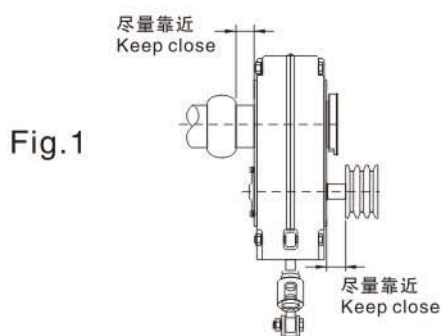

Fig.1
- 1、输入轴上的皮带轮安装时尽可能的靠近减速机，安装减速机到被驱动机时也应该使减速机尽可能的靠近被驱动机，若安装得太远会使减速机的轴承承受较大的径向力，造成轴承的过早损坏（如图1所示）。
1. Install pulley on gearbox input shaft as close to the reducer possible, and mount reducer on driven shaft as close to bearing as practical (see figure 1). failure to do this will cause excess loads in the input shaft bearings and output bearings and could cause their premature failure.